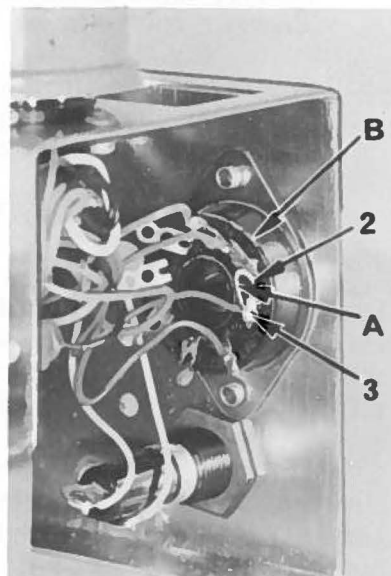

Fig. 21
When installing inching switch, M 6665, be sure to remove jumper wire (A, Fig. 21) located between pin #2 and pin #3 on socket (B) before connecting the inching switch plug or it will not function properly.
Should the inching switch be removed at a later date, the jumper wire (A, Fig. 21) must be replaced or the needle positioning unit will not position up.